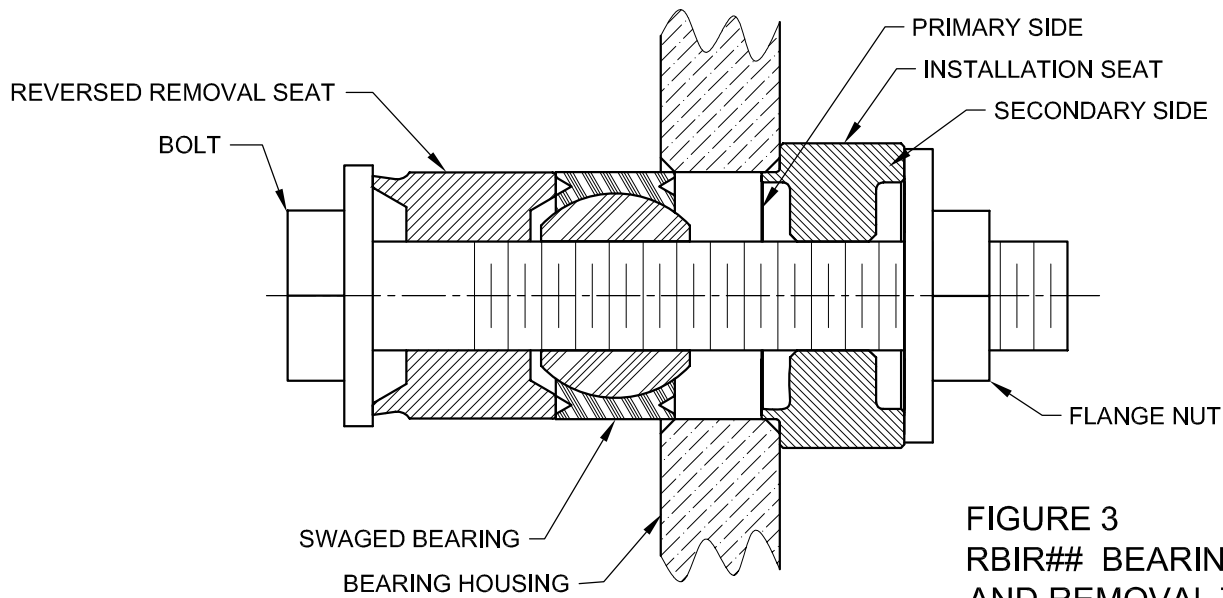

FIGURE 3
2. Press the bearing into the housing taking care to assure that the bearing is straight and not canted to the housing bore during insertion per figure 3. Check to assure the bearing is not canted in the housing and that the bearing will rotate within the torque limits specified on the engineering drawing.